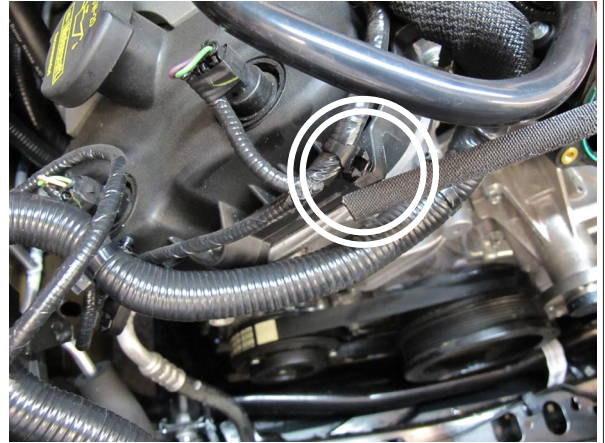

Fig. 3-a Modify Tab
- A. Using a coarse file or similar tool, remove approximately 1/8" from the front edge of the passenger side valve cover tab. See Fig. 3-a. This will ensure proper supercharger-to-valve cover clearance during installation.